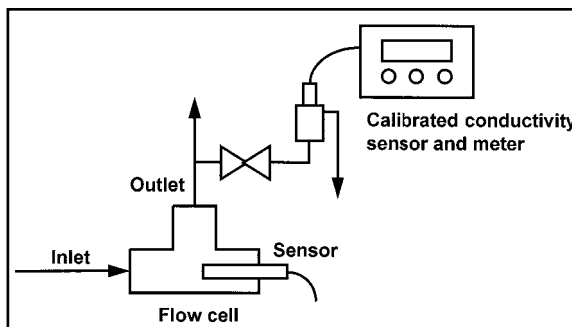

FIGURE 6-1. Calibration Against a Standard Cell
- a. Use a **standard instrument and sensor** to measure the conductivity of the process stream. It is not necessary to remove the sensor from the process piping. See Figure 6-1. The temperature correction used by the standard instrument may not exactly match the temperature correction used by the Solu Comp II. **To avoid errors, turn off temperature correction in both the analyzer and the standard instrument.**